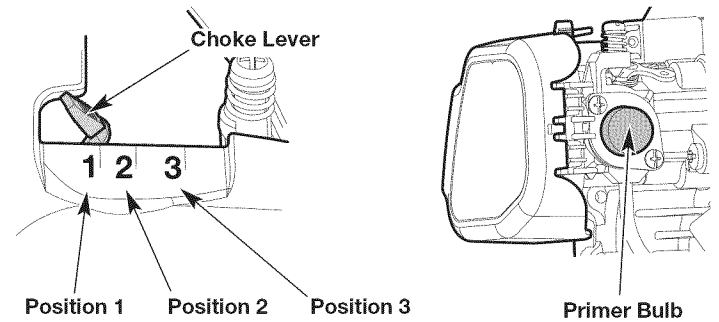

Fig. 8
3. Slowly press and release the primer bulb **10 times** (Fig. 8). If fuel cannot be seen in the primer bulb, press and release the primer bulb until fuel is visible.
4. Move the choke lever to **Position 1** (Fig. 8).
7. Continue to press the throttle lockout and squeeze the throttle control. Move the choke lever to **Position 2** (Fig. 8).
10. Continue to press the throttle lockout and squeeze the throttle control. Move the choke lever to **Position 3** (Fig. 8). Allow the engine to warm up for an additional 60 seconds. The unit may be used during this time.